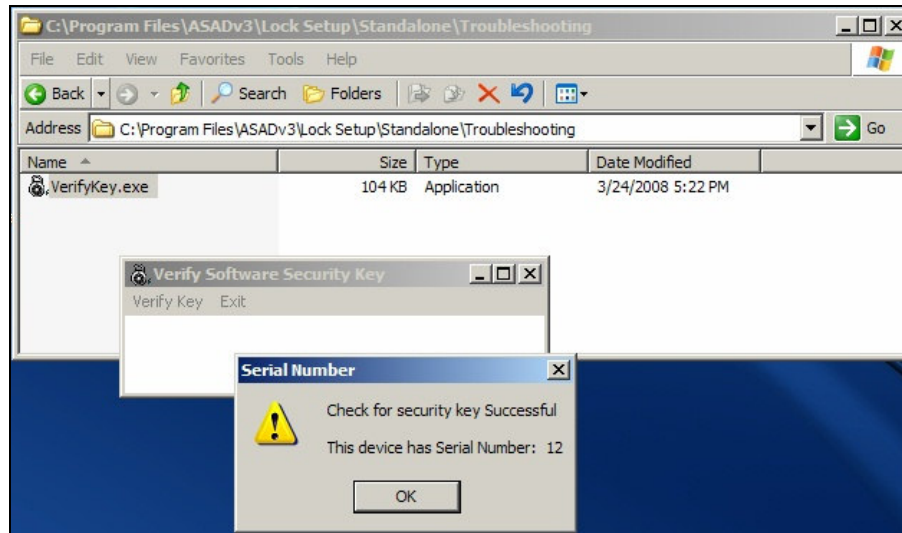

Figure C.21
2) Test the lock, run VerifyKey.exe program (see figure C.21).